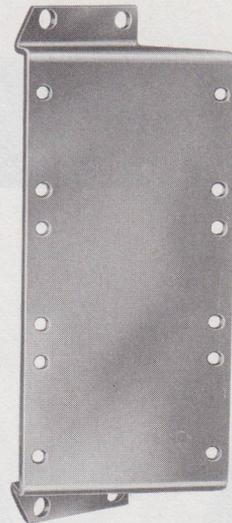

Fig. 37—P-37B204 Bracket
6.01 The P-37B204 bracket (Fig. 37) is used to mount angle-bracket type KTUs on 15A, 16-type, 26A, and 31-type apparatus mountings. Twelve tapped holes permit front and rear mounting of single- and double-space KTUs furnished with four P-353501 SPLHM screws for attaching to apparatus mounting.